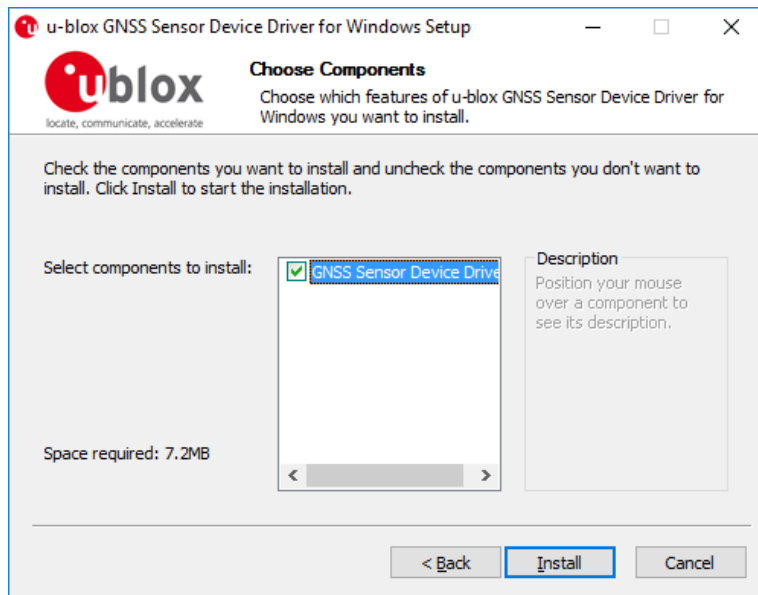

Figure 6: Driver selection
4. On the "Choose Components" window, as shown below, make sure the GNSS Sensor Device Driver is selected as shown in Figure 6. Then click on the "Install" button.